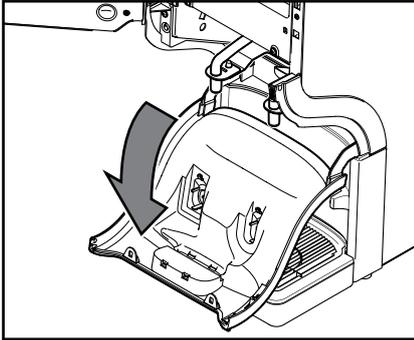

Fig. 36
- b. Pull the outlet cover down (fig. 36).